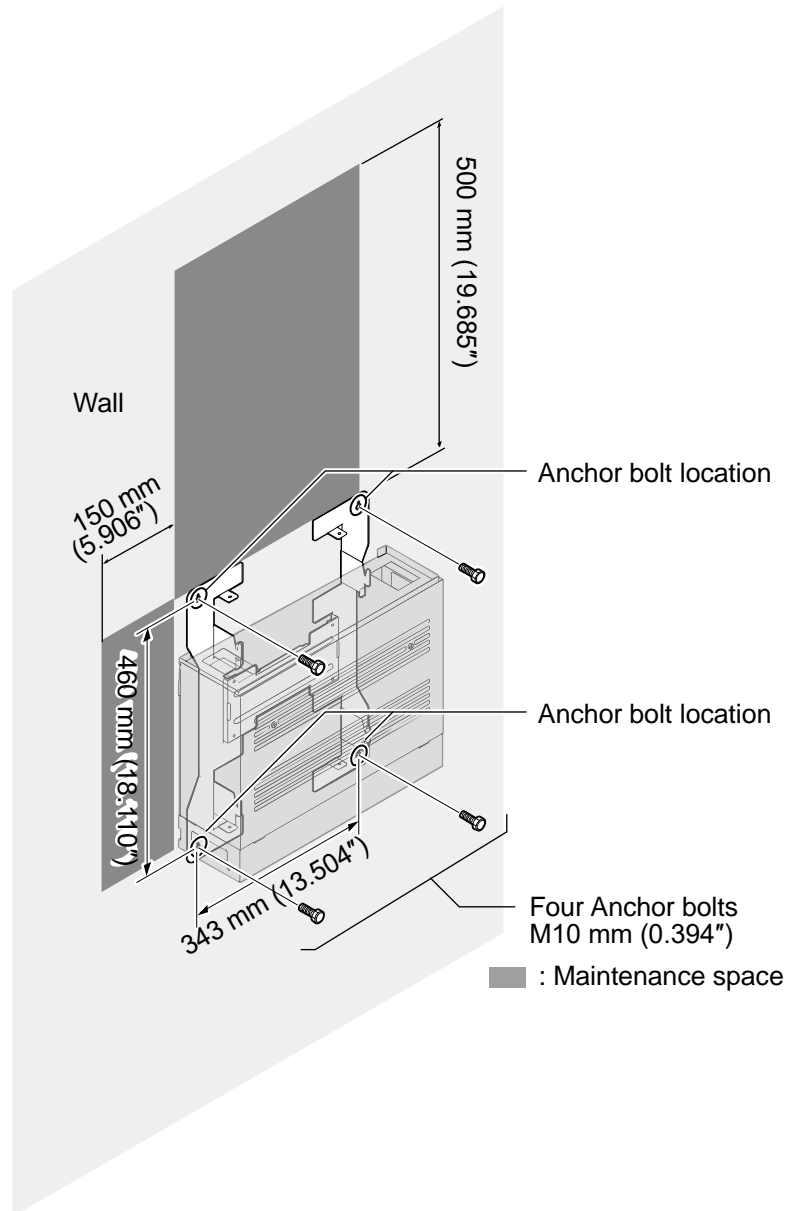

Figure 2-44 Wall-Mount Spacing Guide
2. Refer to Figure 2-44 Wall-Mount Spacing Guide for required spacing before drilling holes for 10 mm anchor bolts (locally procured).